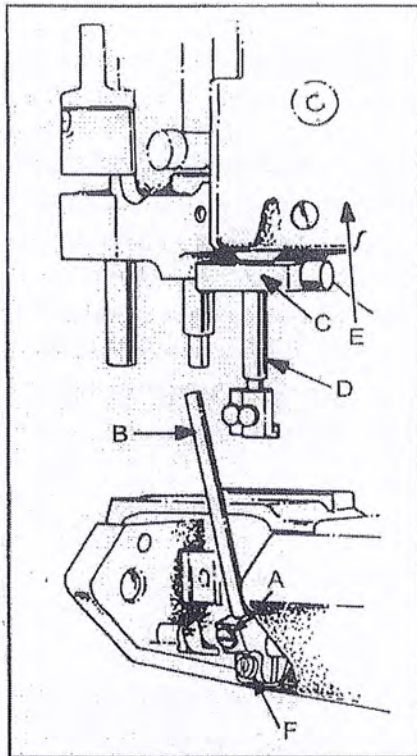
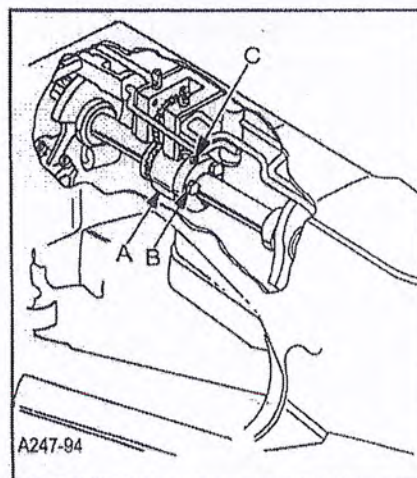

FIG. 2
FIG. 3
To synchronize the machine, remove the needles, presser foot, throat plate, feed dogs and upper feed roller mechanism. Rotate handwheel in the operating direction until the needle bar is at the bottom of its stroke and just begins its upward travel. Loosen screw (A, Fig. 2) and remove the looper for the left hand needle from the looper holder. Insert a straight steel rod (B) $5/32$ " (3.9mm) or $11/64$ " (4.3mm) diameter by 2-1/2" (63.5mm) long into looper holder and retighten screw (A). Rotate the handwheel until the rod (B) is at the extreme left and reinstall the throat plate. Loosen screw (F) in looper holder and move the holder left or right until the right side of the rod is approximately $5/32$ " (4.0mm) from the left edge of the throat plate, tighten screw (F). Turn the handwheel in the operating direction, with needle bar rising until rod (B) comes in contact with the edge of the throat plate. At this point, clamp timing gauge No. TT147 (C) around the needle bar (D), flush against the underside of the machine casting (E). Rotate handwheel in the opposite direction until needle bar or the rod contacts the edge of the throat plate. Maximum allowable clearance between gauge and casting or rod and throat plate is .005" (0.1mm).
Both ends of the adjustable split coupling are secured to the crankshaft and main shaft by spot screws and set screws. On the main shaft end of the coupling (A, Fig. 3) three screws (B) thread horizontally through the coupling. The holes in the main shaft end of the coupling are larger than the diameter of the screws, permitting several degrees of rotation in either direction to properly synchronize the needle and looper. Loosen the three horizontal clamp screws (B, Fig. 3). With rod (B, Fig. 2) at its farthest position to the left, snug the uppermost horizontal clamp screw enough to hold coupling (A, Fig. 3) in position. If the handwheel is turned in reverse of operating direction and gauge (C, Fig. 2) on needle bar (D) contacts the machine casting (E) before rod (B) contacts the edge of the throat plate loosen horizontal clamp screw (B, Fig. 3) which was snug, while holding the coupling in place with an Allen wrench in set screw (C). Rotate the handwheel slightly in reverse of operating direction, snug the uppermost horizontal clamp screw (B), recheck synchronization. If the handwheel is turned in reverse of operating direction and the rod contacts the edge of the throat plate before the clamp gauge contacts the machine casting, adjust as before, except turn the handwheel slightly in the operating direction. Use shim stock to insure no more than .005" (0.1mm) exists between gauge and casting or between rod and throat plate, in both the operating and reverse directions of the handwheel. When this setting has been made, tighten the three horizontal clamp screws (B, Fig. 3) securely, and recheck both clearance points with .005" (0.1mm) shim gauge to assure no slippage occurred while tightening the screws.